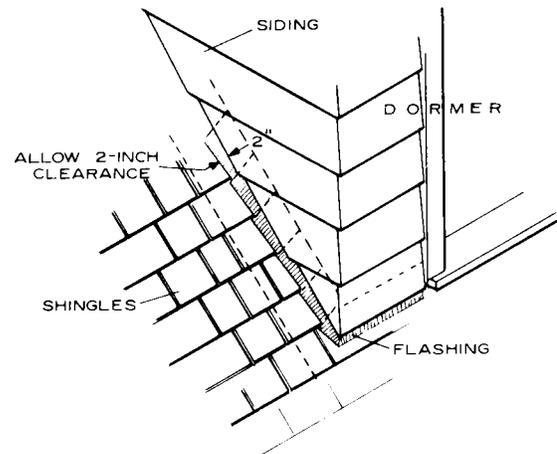

Figure 6. Separate siding from shingles with metal flashing.
4. Use metal flashing to separate siding and roofing materials, and maintain at least two inches of clearance between siding and roofing (figure 6).
around any vents or chimneys to reduce potential for water penetration into wood roof sheathing or framing (figure 6).